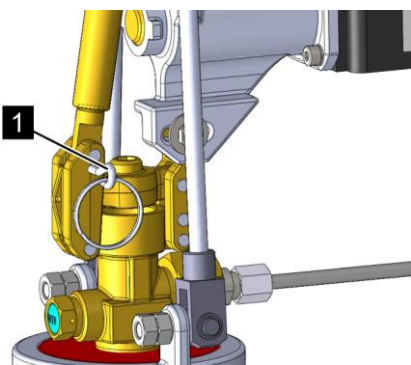

Fig. 144: Lock pin
3. ➔ Safeguard the valve of the pilot cylinder against faulty release, with a lock pin (Fig. 144/1).